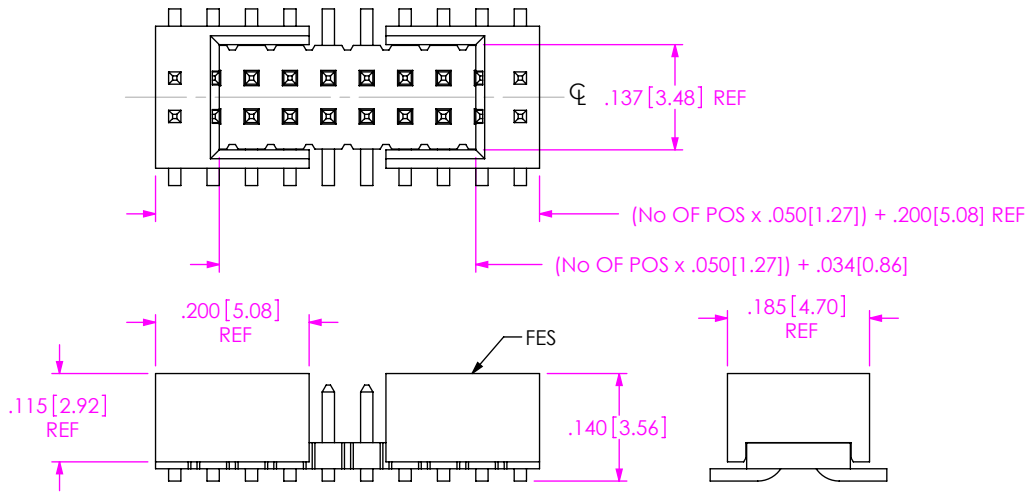
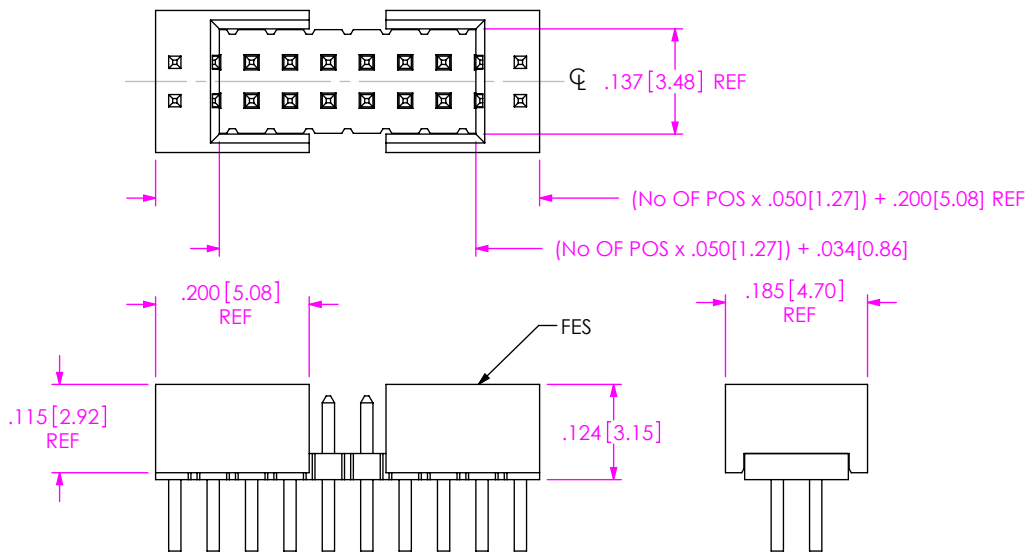

FIG 3
FIG 6
- S: END SHROUDS (SEE FIG 3, SHT 2 & FIG 6 SHT 3) (LEAD STYLE -02 & -03 ONLY) (05 POS MINIMUM, 46 POS MAXIMUM) (NOT AVAILABLE WITH -A OPTION; ORDER -SA FOR ALIGNMENT PIN WITH SHROUD)